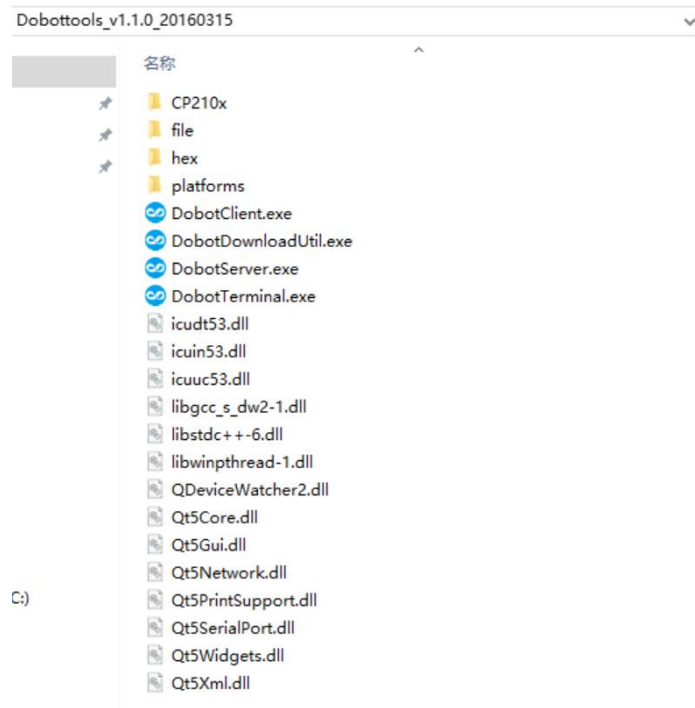

Figure 4 DobotTools Folder Structure
1. Download newest DobotTools from our Dobot official website and unzip it after download. The folder structure is shown in Figure 4.